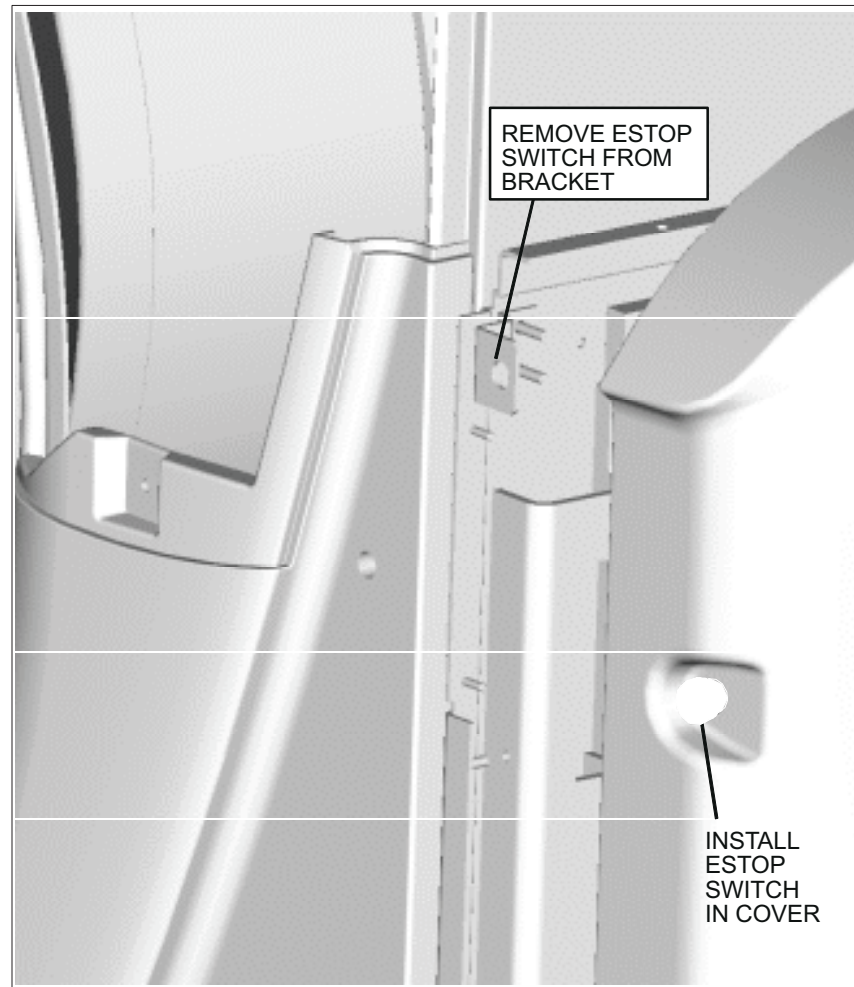

FIGURE 231 ESTOP SWITCH LOCATION
4. Install the E–Stop Switch in the Lower Right Side Column. Refer to Figure 231.